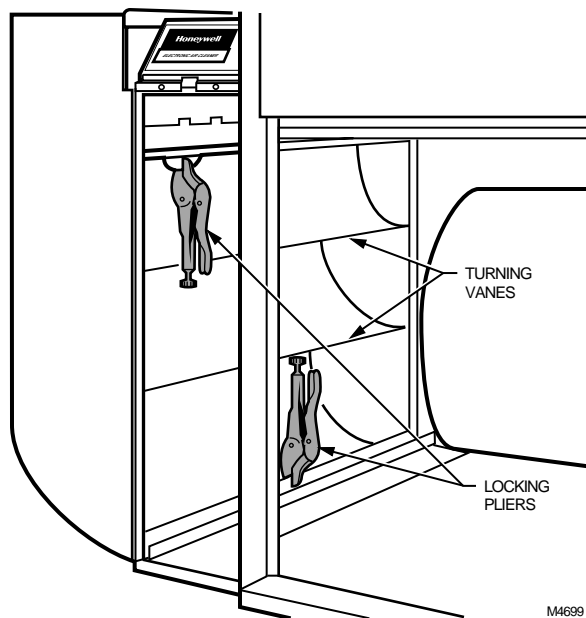

Fig. 20. Connect ductwork to air cleaner. Note turning vanes. Locking pliers hold duct to air cleaner cabinet during installation.
- ❑ Attach the cabinet securely to the furnace. The unit can be attached directly, as shown, or a starting collar can first be fitted in the furnace opening. Either drill holes and fasten with sheetmetal screws or rivets, or use slip joints. If you are drilling holes, locking pliers help to hold the unit in place during drilling. See Fig. 20.